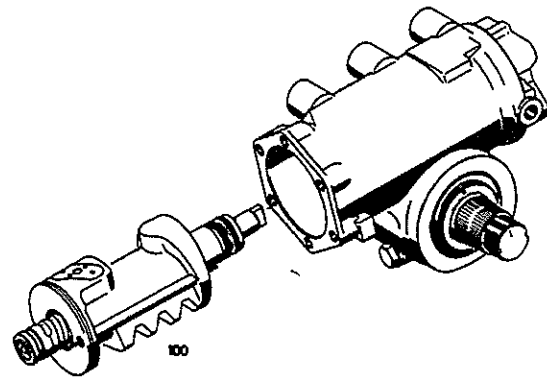

Fig.10
7.1 Draw piston (100) out of housing (1) together with worm (151), turning the steering drop arm which is still mounted on the sector shaft (80) at the same time (Fig.10).